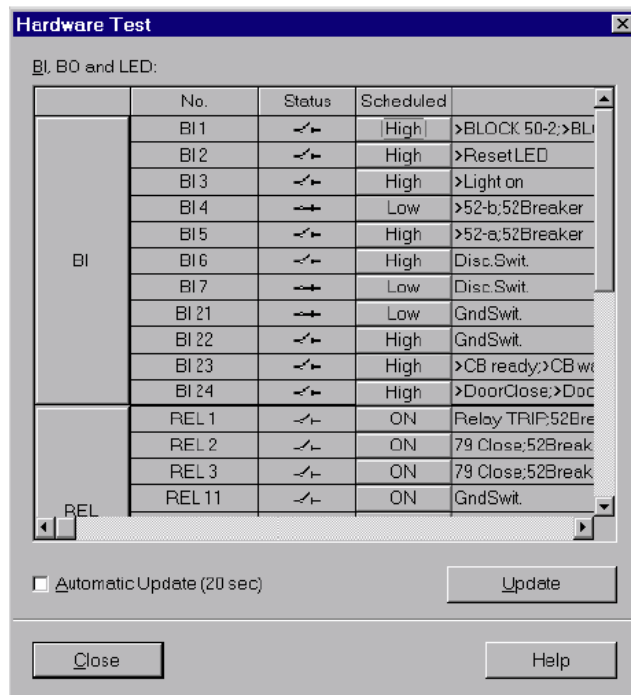

Figure 3-20 Testing of the binary inputs and outputs — example
- Double-click in the list view on **Device inputs and outputs**. The dialog box with this name is opened (see Figure 3-20).